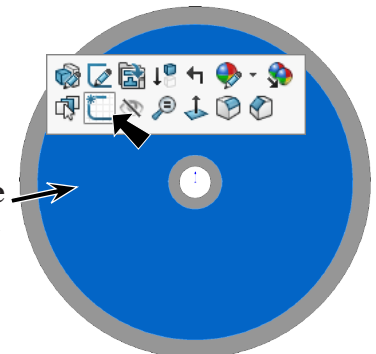

Fig. 13
Step 1. Click the **side face of wheel** and click **Sketch**  on the Context toolbar, **Fig. 13**.
Step 2. Click **Circle**  (S) on the Sketch toolbar.